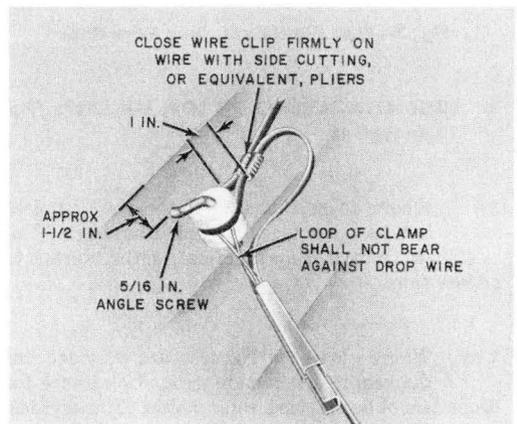

Fig. 1—First Attachment, Horizontal Run
2. TYPICAL FIRST ATTACHMENTS TO BUILDINGS AND STEEL STRUCTURES (Fig. 1 through 9)